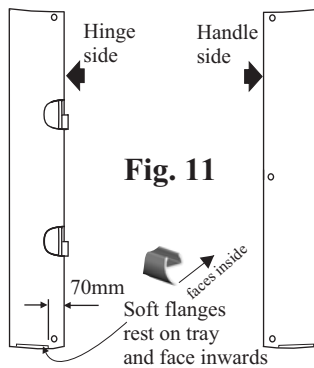

Fig. 11
5.3 The gaskets already fitted to the narrow glass panels are to suit a door only application. Remove these gaskets and replace with the shorter gaskets supplied. Fit these gaskets 70mm from those edges of the panels that will be adjacent to the door. See Fig 11.